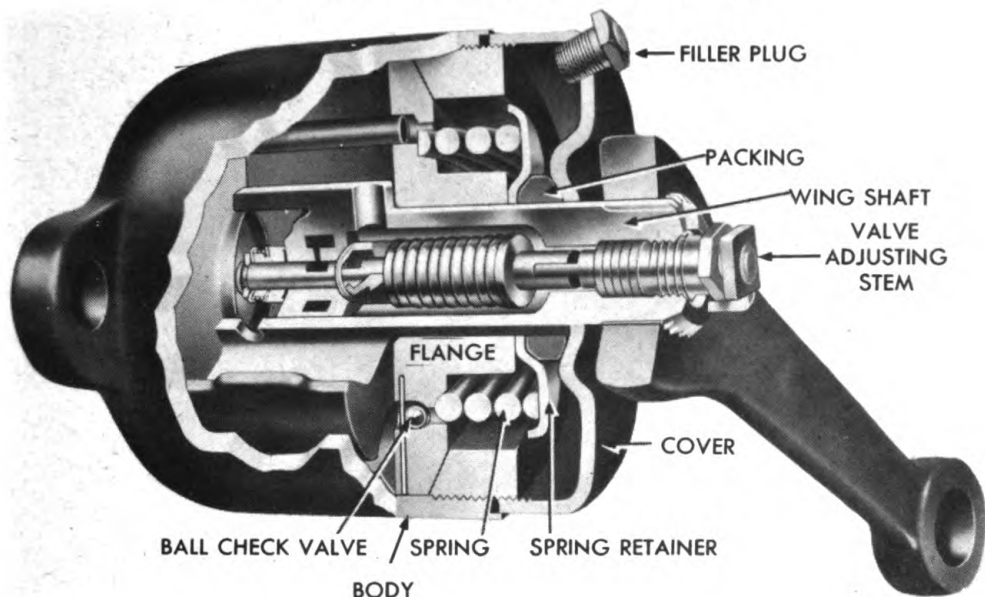

Figure 57 — Shock Absorber — Cutaway View RA PD 77083
a. Disassembly (fig. 57).
- (1) Remove filler plug, and drain fluid from shock absorber.
- (2) Attach puller to lever with short piece of pipe resting on wing shaft, between wing shaft and puller screw, to avoid damage to adjusting valve. Pull lever from wing shaft.
- (3) Clamp body of shock absorber in vise, and loosen threaded cover in body, using hammer and punch to unscrew cover. Do not remove cover. Leave last two or three threads engaged with body, otherwise spring pressure will cause cover to fly out when threads are disengaged.
- (4) Place unit in hydraulic press with ram of press resting lightly against cover. Unscrew cover from body, and release hydraulic press slowly. Remove shock absorber from hydraulic press.
- (5) Turn shock absorber over, and tap on edge of bench to remove valves from inside body.